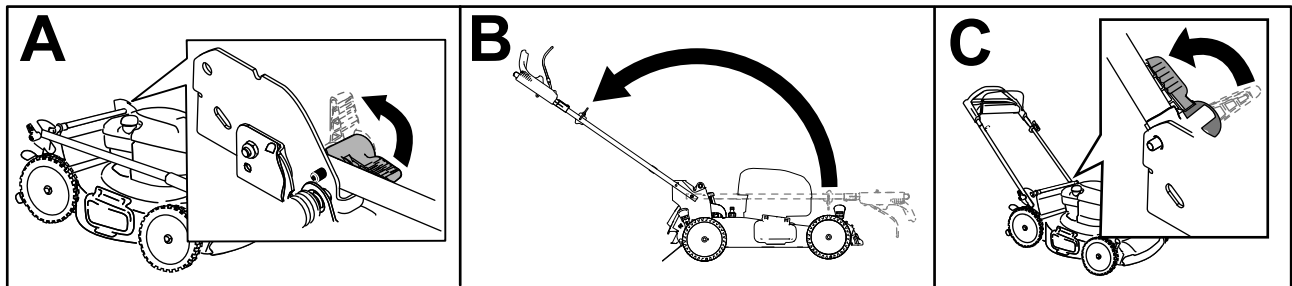

Figure 3
1. Unlock the handle (A of Figure 3).
2. Move the handle rearward to the operating position (B of Figure 3).
3. Set the handle lock until the pin clicks in place to lock the handle into the operating position (C of Figure 3).